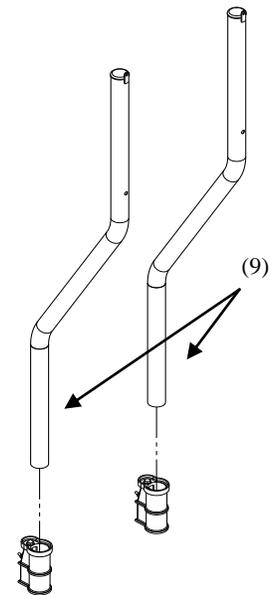

Figure 1
1. Begin assembly by inserting the vertical posts into the installed anchors. Position the posts so that the small mounting tabs located at the top of the posts are facing away from the pool. To make assembly easier, the basketball game will be assembled facing away from the pool and will be turned around once assembly is complete. **Fig.1**